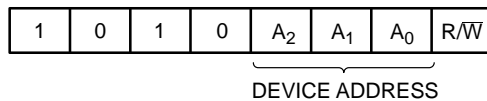

Figure 3. Slave Address Bits
The Master addresses a Slave by creating a START condition and then broadcasting an 8-bit Slave address. For the N24C64, the first four bits of the Slave address are set to 1010 (Ah); the next three bits, A2, A1 and A0, must match the logic state of the similarly named input pins. The R/W bit tells the Slave whether the Master intends to read (1) or write (0) data (Figure 3). The device in WLCSP with 4 bumps responds only to address combination A2A1A0 = 000.